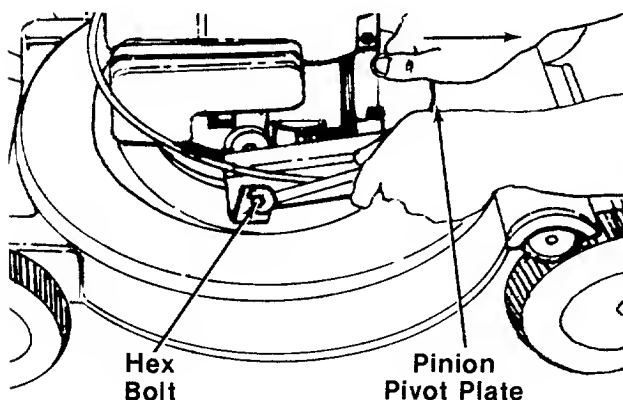

FIGURE 18.
1. Loosen (do not remove) the hex bolt on each side of the pinion pivot plate. See figure 18.